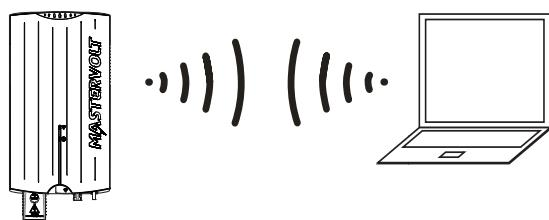

Figure 6-1: Soladin WiFi communication – Point-to-Point mode
1. Check if the yellow WiFi LED (3) is blinking (● - - - ● - - - ●), indicating it is generating a point-to-point WiFi network. If this is not the case, push the WiFi button (6) shortly until the WiFi LED blinks as indicated.
2. Refer to fig. 6-1. Using a **WiFi device**, connect to the WiFi network called [Mastervolt-Soladin-xxxx]. No password is required ("xxxx" represents the last 4 digits of the Soladin serial number)